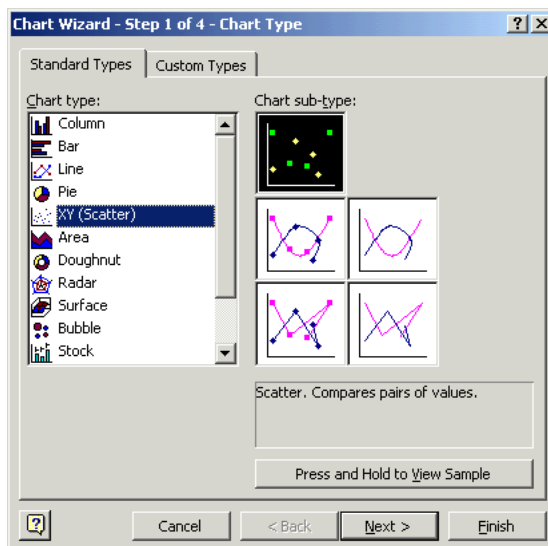

Figure 1. Choosing graph type and sub-graph type.
3. For the sub-graph type, select the option without any lines connecting the data points. (See Figure 1.) You can click and hold on the button that says "Press and Hold to View Sample" to see a preliminary view of what your graph will look like.